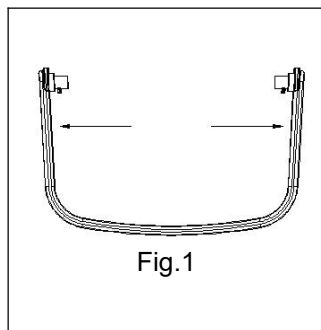

Fig.1
- 1) Grasp both sides of the handle shown in arrows with hands and pull them outwards (see Fig.1).